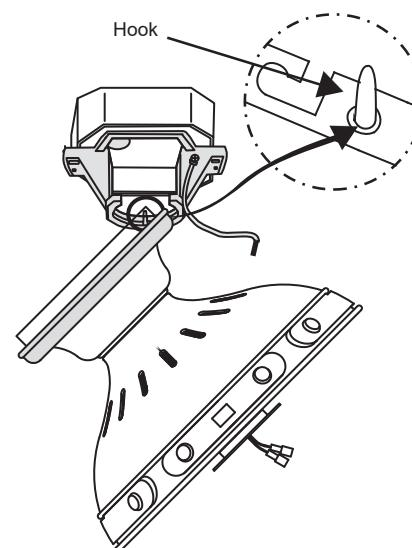

Fig. 10
**Step 3.** Hang the fan on the ceiling mounting bracket by inserting the hook on the inside edge of the ceiling mounting bracket through one of the screw holes in the ceiling canopy. (Fig. 10) This will allow you to have both hands free to make the wiring connections.